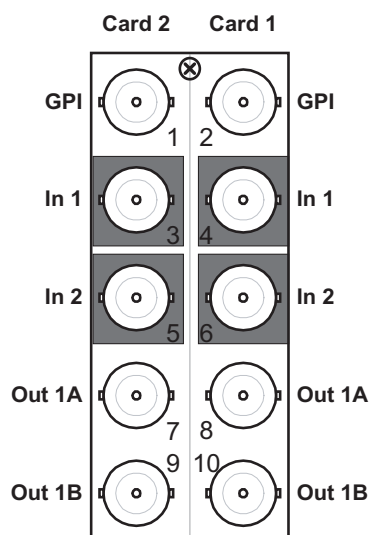

Figure 2.4 Cable Connections for the 8320AR-031 Rear Module
- **8320AR-031 Split Rear Module** — Each rear module occupies two slots and accommodates two cards. This rear module includes two inputs, and two outputs per card. (Figure 2.4)